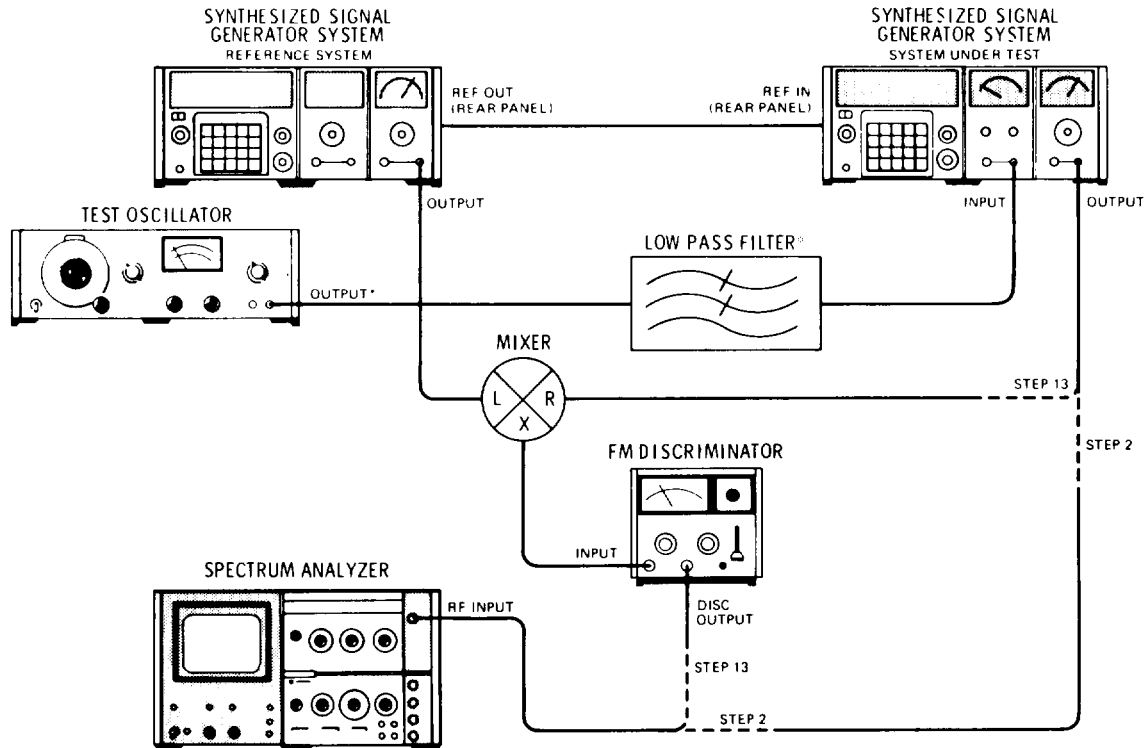

Figure 5-5A. Phase Modulation Level and Distortion Adjustment Test Setup
2. Connect the equipment as shown in Figure 5-5A. Connect the output of the System Under Test directly to the spectrum analyzer RF input. Be sure to use the correct impedance test oscillator output and the correct low pass filter.
*In Figure 5-5A. the test oscillator output and low pass filter impedances are 50s when the modulation section being used is a Model 86634A and 60012 when used with an 86635A.